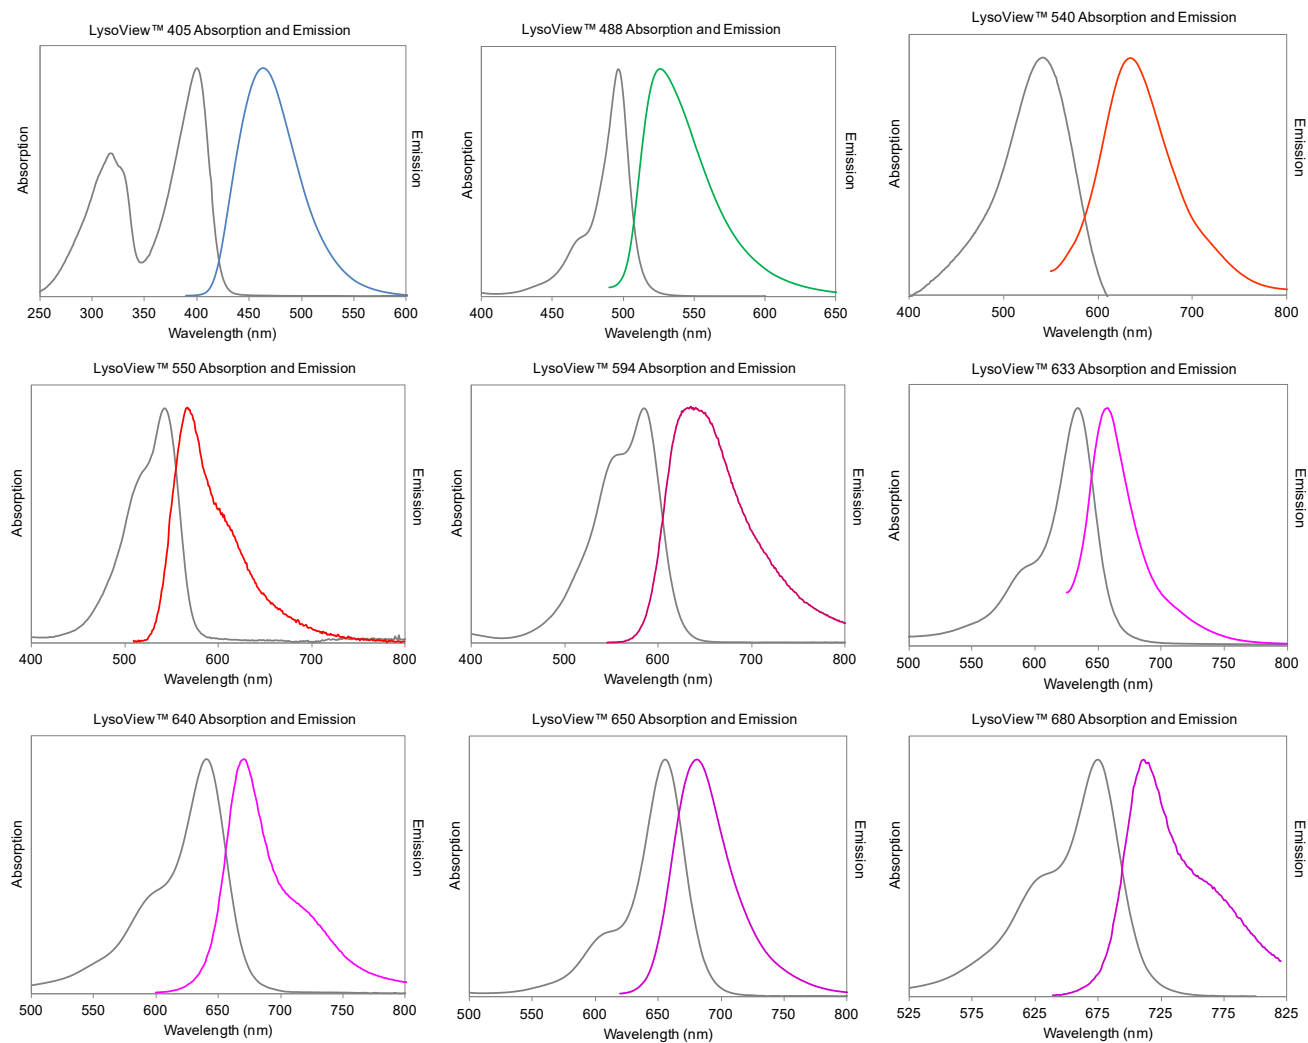

Figure 1. Normalized absorption and emission of LysoView™ Dyes at pH ~5.
** Spectral properties at pH ≤ 5. See Figure 1.